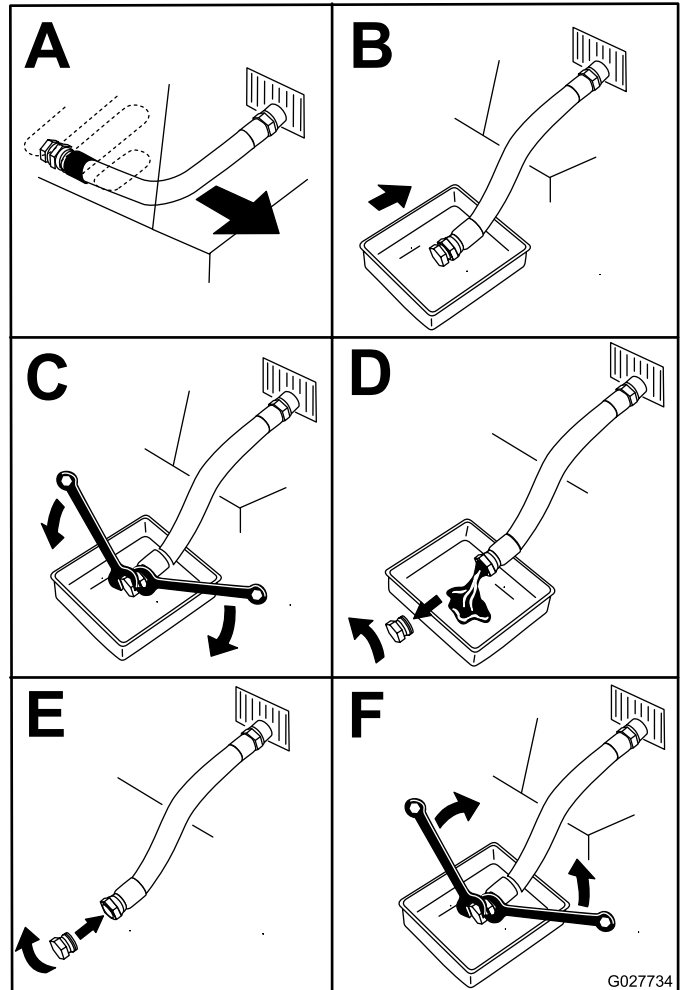

Figure 63
5. Drain the oil from the engine (Figure 63).